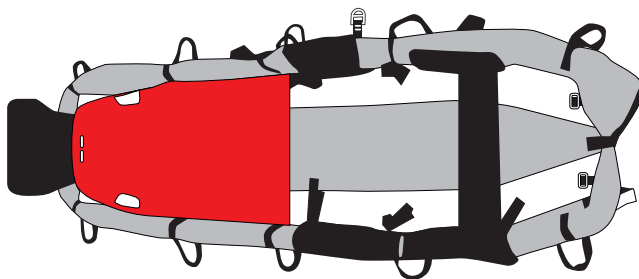

Fig.40
e) fold the spinal board (fig. 40)